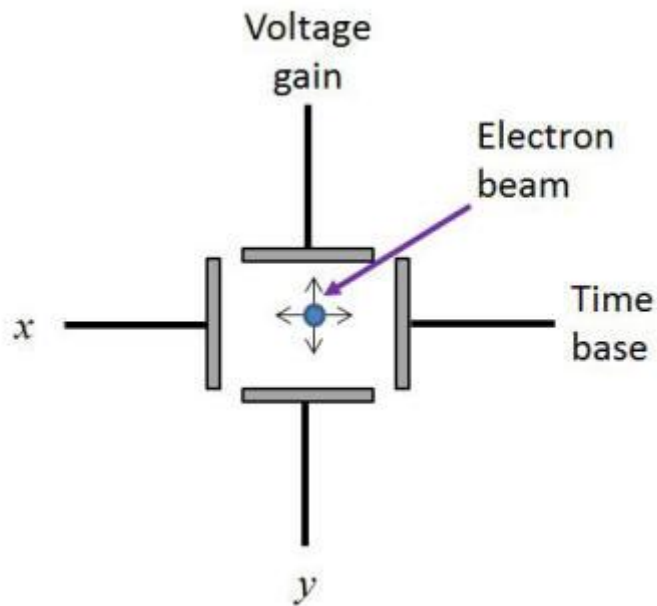

Figure 96 Deflecting the electron beam
The beam passes through the **deflection plates** (1) which produce a uniform electric field. The plates are arranged like this (*Figure 96*).